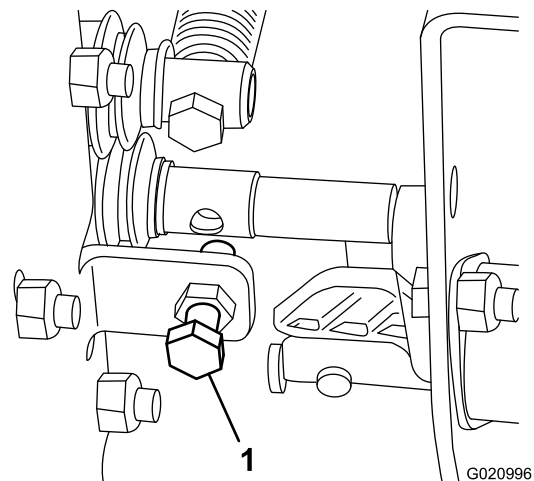

Figure 25
- If the lift speed of the machine is too slow or too fast, adjust the bolt indicated in Figure 25.